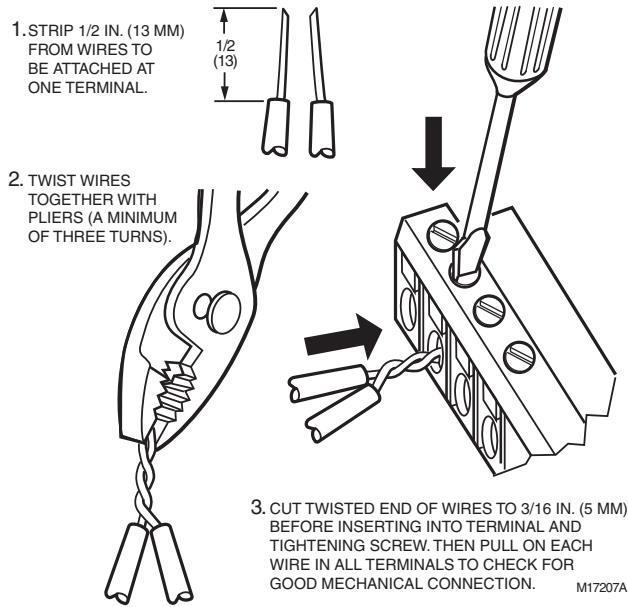

Fig. 15. Attaching two or more wires at terminal blocks.
NOTE: When attaching two or more wires to the same terminal, other than 14 AWG (2.0 sq mm), be sure to twist them together. Deviation from this rule can result in improper electrical contact (see Fig. 15). Each terminal can accommodate the following gauges of wire:
3. If two or more wires are being inserted into one terminal location, twist the wires together a minimum of three turns before inserting them (see Fig. 15).